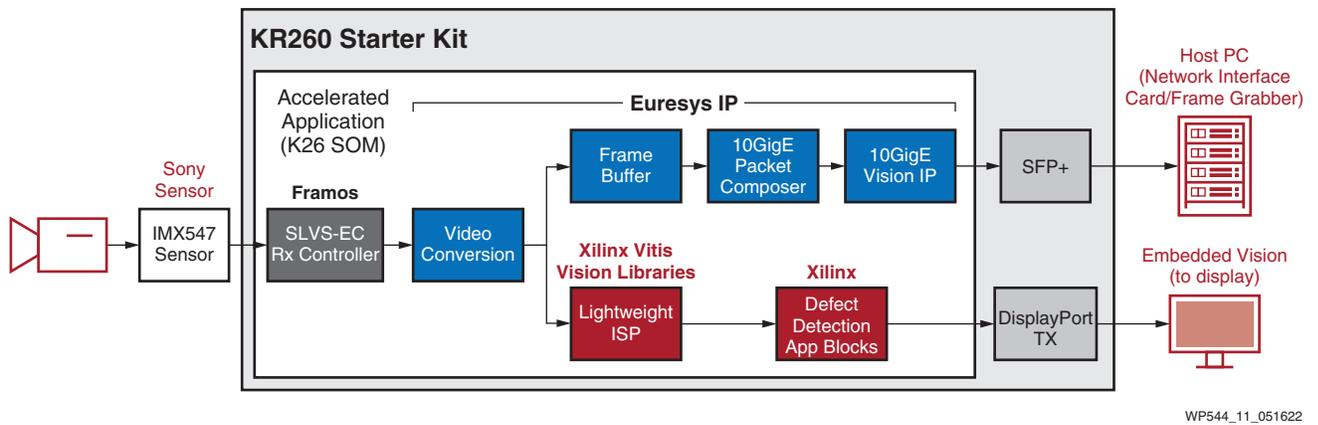

Figure 11: 10GigE Vision Camera
- 10GigE Vision Camera: Two applications in one-factory automation camera using SLVS-EC sensor input and GigE Vision camera to PC output with an additional embedded vision camera branch directly to monitor showcasing embedded defect detection OpenCV algorithms. The compatible Sony IMX547 monochrome or color image sensor is available as an accessory for an additional charge. See Figure 11.